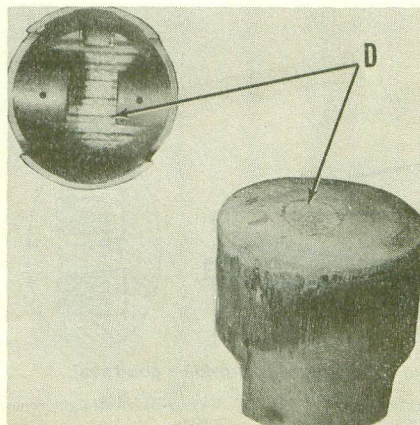

Fig. 2-29—If parts are excessively damaged, cause should be determined and corrected before returning motor to service.
When servicing pistons, rings and cylinders, it is important that all recommended tolerances be closely observed. Parts that are damaged should be carefully examined to determine the cause. A piston damaged as shown in Fig. 2-29 is obviously not a result of normal wear and if the cause is not corrected, new parts may be similarly damaged in a short time. On this particular piston, the skirt is not scored and the first glance will show melted aluminum which has covered the ring on one side. The melted spot (D) on top